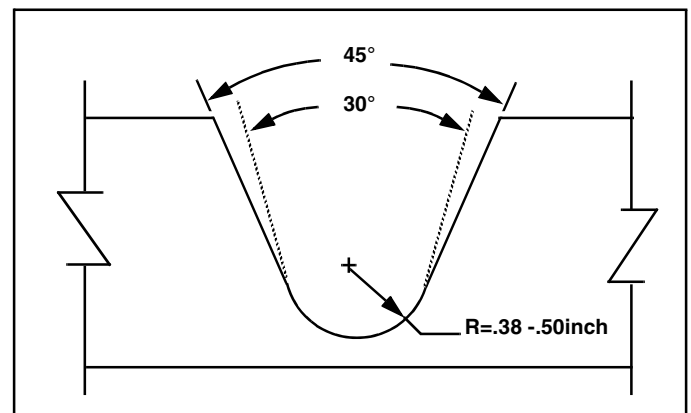

Figure 9-13 Crack Repair
6. The angles on the side of the weld repair joint will vary depending on the depth of crack, the thickness of the member and the weld processes used for the repair. A general rule is that the sides of the joint should be at an angle of 15° to 22-1/2°. (This will give a 30° to 45° included angle.) See Figure 9-13.